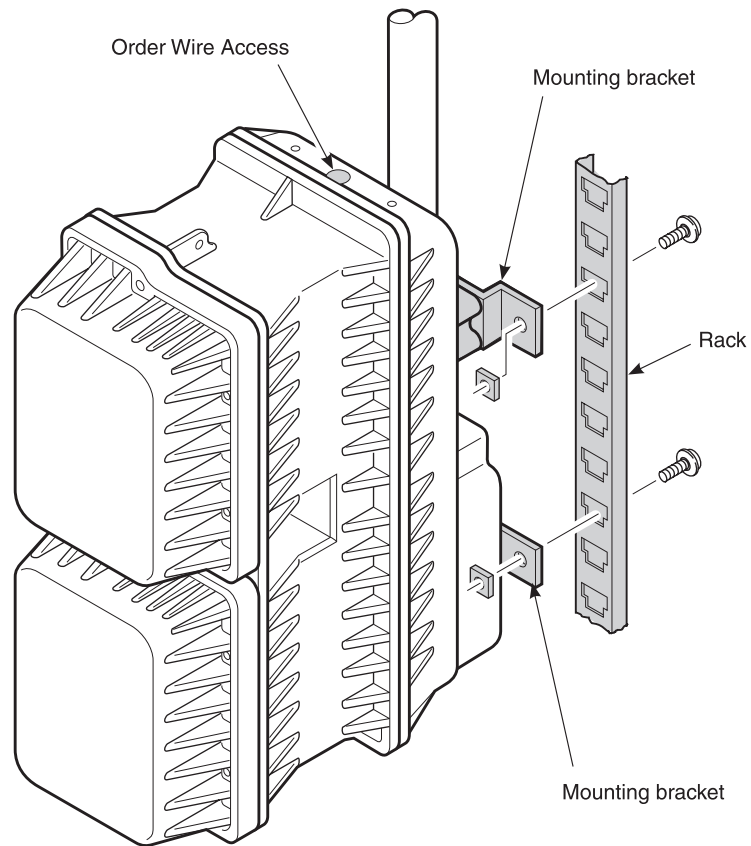

Figure 6. Manhole Installation
- 2 Install and secure the base on cable racks as shown in Figure 6. The order wire terminal is located at the stub cable end of the base unit. When cases are mounted in tight quarters, be sure to mount the case so that this terminal is easily accessible.
The order wire is brought in on the G-W pair. The order wire access port (Figure 6 on page 9) provides access to this pair.